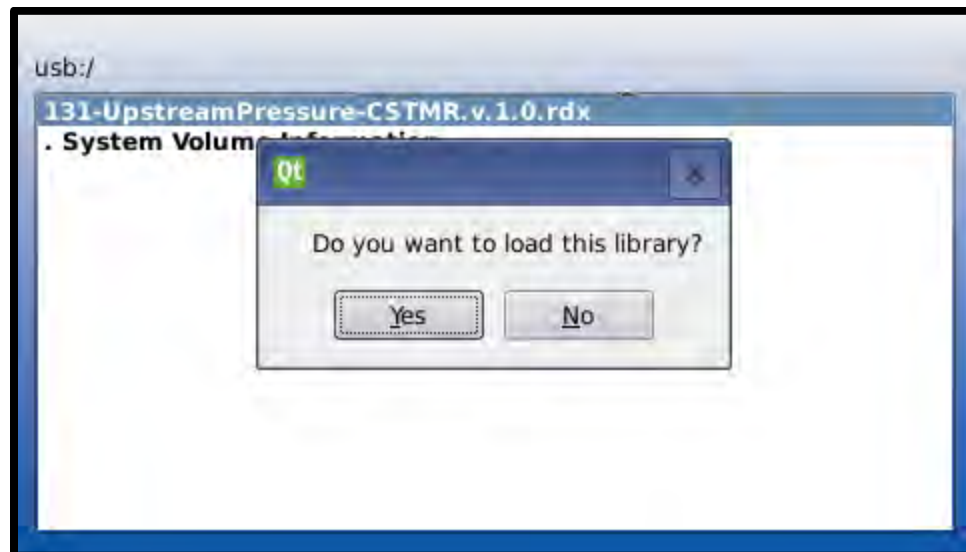

Figure 5.7
- d. When prompted for confirmation, highlight “Yes” using navigation arrows and press “OK” as shown in Figure 5.7.